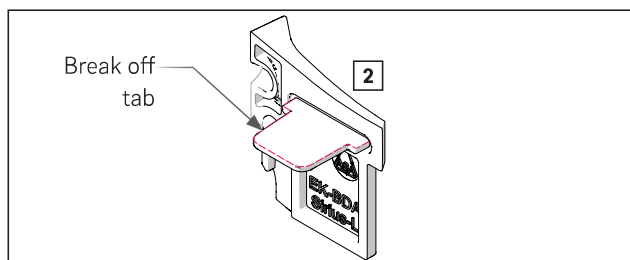

Fig. 7: Fabrication of weather rail end cap part 2
- Once the hardware has been installed, part 2 of the end cap can now be pushed from the top to the bottom of the sash upstand and through the fitting groove onto the already installed end cap and screwed tight. The tab (fig. 7) on the hardware side must be removed for this purpose.